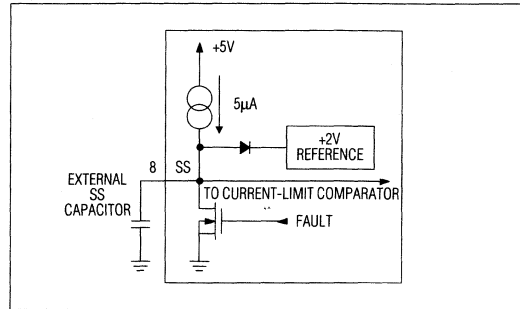

Figure 8. Soft-Start Equivalent Circuit
A capacitor connected between Soft-Start (SS) and ground limits surge currents at power-up. As shown under Typical Operating Characteristics, the peak switch current limit is a function of the voltage at SS. SS is internally connected to a 5 μ A current source and is diode-clamped to 2.6V (Figure 8). Soft-start timing is therefore set by the SS capacitor value. As the SS voltage ramps up, peak inductor currents rise until they reach normal operating levels. Typical values for the SS capacitor, when it is required at all, are in the range of 1 μ F to 10 μ F.